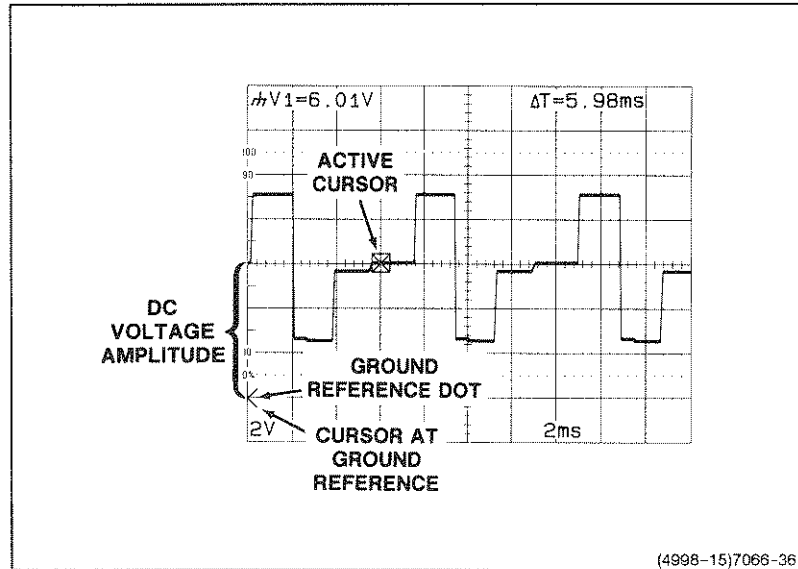

Figure 6-15. Ground-referenced dc voltage, cursor method.
8. Use the CURSORS control to move the active cursor to the point of interest on the waveform (see Figure 6-15).